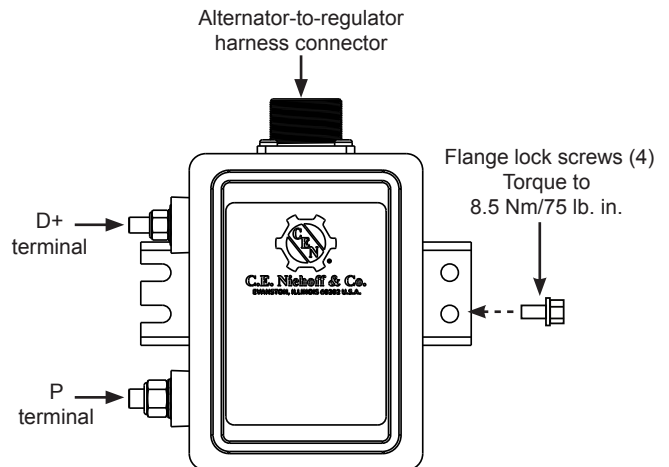

Figure 5: Typical Regulator Connections
3. Securely plug alternator-to-regulator harness into receptacle on regulator. See Figure 5 for receptacle location.
- **D+ terminal** (if required) provides DC system battery voltage to vehicle (5A maximum) for charge indicator lamp, relay, or multiplex while alternator is producing output. Torque terminal hardware to 4.5 Nm/40 lb. in. See Figure 5.
- **P/AC terminal** (if required) taps AC voltage from alternator, typically half the charge voltage (3A maximum). P/AC terminal provides alternator RPM frequency at 10:1 ratio for use with tachometer. Torque terminal hardware to 4.5 Nm/40 lb. in. See Figure 5.